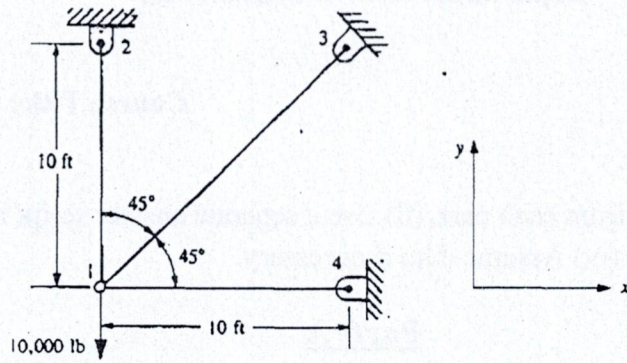

Fig. 5.1
5. Find the stresses for each of the elements in Fig. 5.1. The modulus of elasticity is 30×10^6 psi, and the area is 2 in^2 for all elements. 10